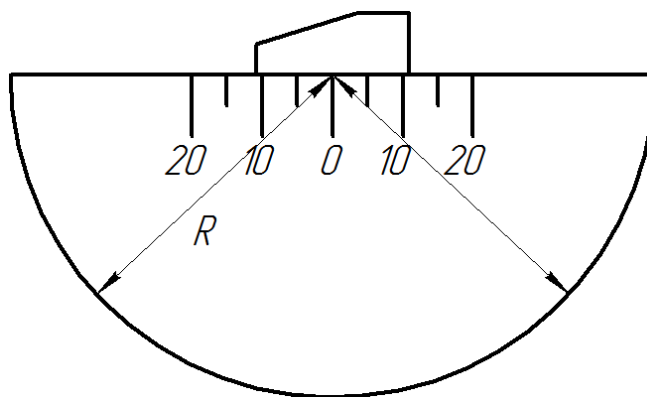

Figure 2.70 – Setting the probe on calibration block SO-3
1. Set the probe, through contact lubricant layer, on the standard calibration block CB3 in a way, that output point of the probe beam coincides with zero point of the block (figure 2.70).